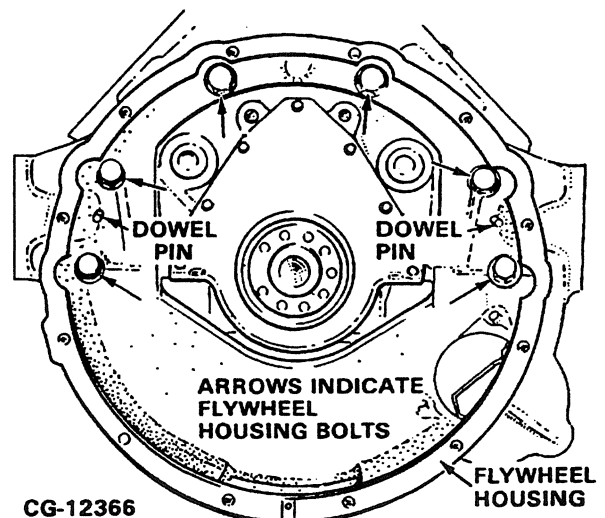

Figure 6.27. Flywheel Housing Removal
2. With crankshaft pulley, damper, front cover, flywheel assembly and rear cover removed as outlined earlier in this section, remove bolts from flywheel adapter and remove, Figure 6.27.